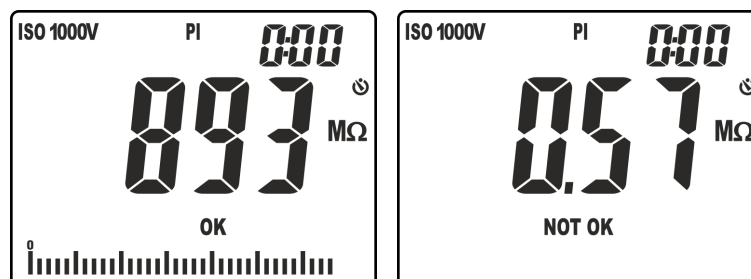

Fig. 23: Results of insulation measurement in PI mode
9. In the screen in Fig. 23 – left side, the value of insulation resistance is present at the end of measurement with positive result “OK” (value higher than the set threshold). In the screen in Fig. 23 – right side, the value of insulation resistance is present at the end of measurement with negative result “NOT OK” (value lower than the set threshold).